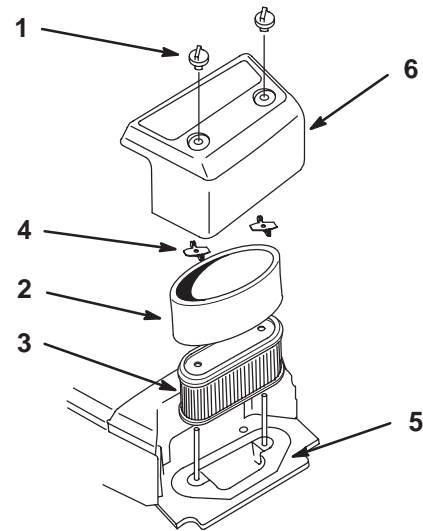

Figure 34
2. Clean around the air cleaner to prevent dirt from getting into the engine and causing damage. Remove cover nuts and cover (Fig. 34).
3. Remove wingnuts and air cleaner elements (Fig. 34).
4. Carefully remove the foam element from the paper element (Fig. 34).
1. Carefully slide the foam element onto the paper air cleaner element (Fig. 34).
2. Place the air cleaner assembly onto the air cleaner base and install wingnuts (Fig. 34).
3. Install the air cleaner cover and secure with cover nuts (Fig. 34).